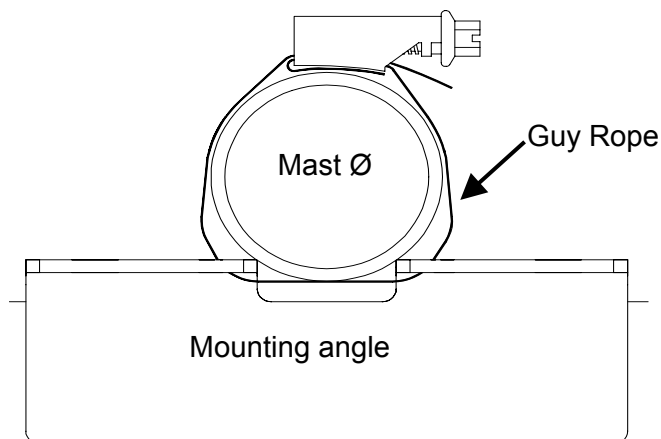

Figure 9: Mast with guy rope
3. Put the free end of the prepared clamp around the mast and the mounting angle, and screw it on (see **Figure 9**).